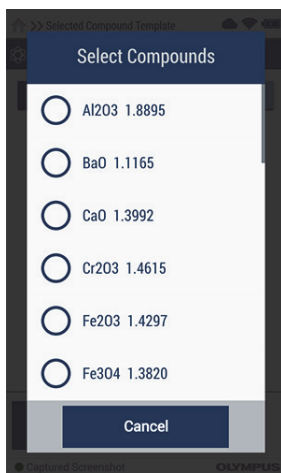

Figure 2-91 Select Compounds dialog
4. Tap the **Add** button () to display the **Select Compounds** dialog box (see Figure 2-91 on page 102).